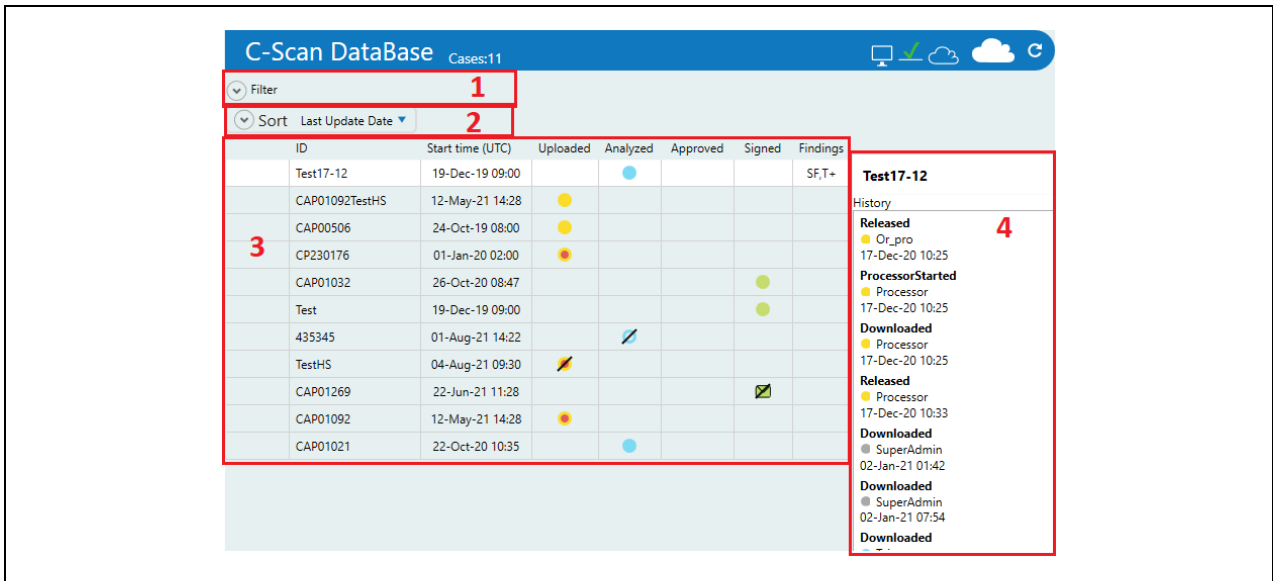

Figure 51: Data Base
- Filter (see #1 in Figure 51)
- Sort (see #2 in Figure 51) toggles and the
- Cases Table - with all the cases that have been uploaded to server (see #3 in Figure 51)
- Case history (see #4 in Figure 51) which shows history details of the highlighted case; notice that clicking on a procedure line in my local files highlights it's relevant line in the Data Base, if it was already released, and the opposite is also true.
The filter (see #1 Figure 51) can be used to see a subset of the cases in the data base. The filter can be applied by State, Issue, Case ID, C-Scan Cap SN, C-Scan Track SN, Findings, Risk Level, User Name, Procedure Start Date, Last Update Date and Patient Gender (See Figure 52)